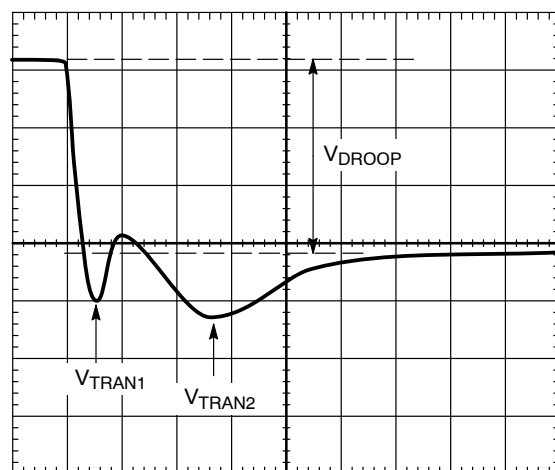

Figure 48. Transient Setting Waveform, Load Step
1. With the dynamic load set at its maximum step size, expand the scope time scale to $2 \mu\text{s}/\text{div}$ to $5 \mu\text{s}/\text{div}$. This results in a waveform that may have two overshoots and one minor undershoot before achieving the final desired value after V_{DROOP} (see Figure 48).